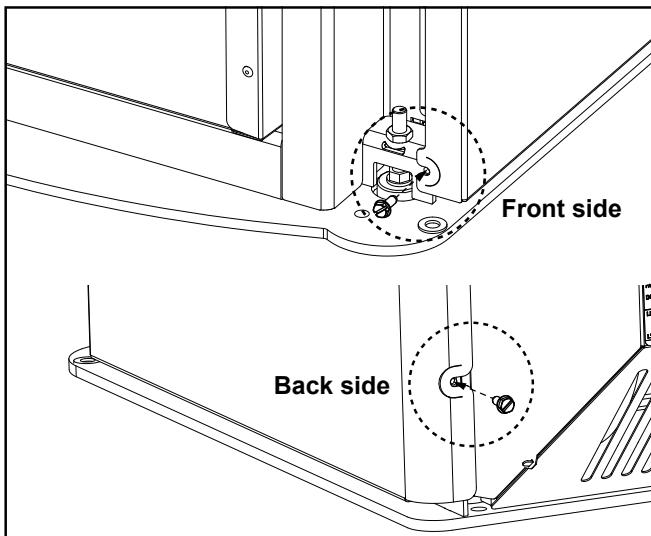

Figure 2
**Step 2:** Tighten the (4) 10-24 x 1/2" Thread cutting screw using a 5/16" nut driver, (2) Thread cutting screws per panel. Figure 2. (**Note: The door does not need to be removed to access screws.**)